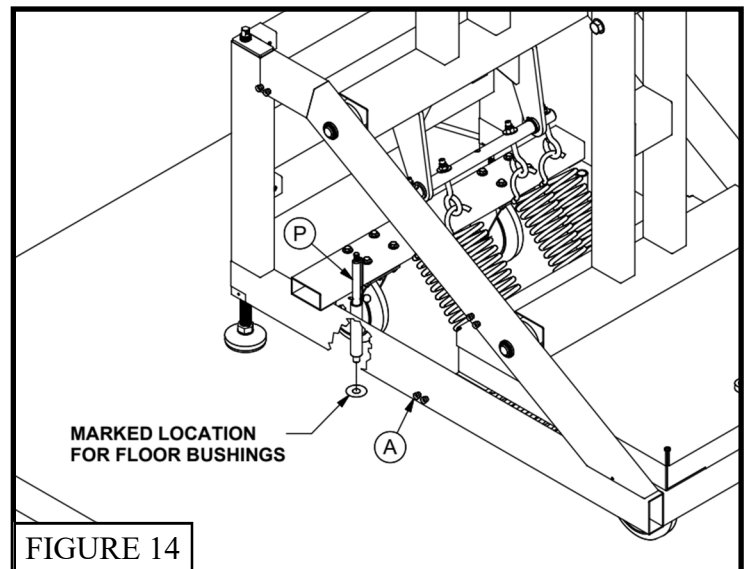

FIGURE 14
22. Move the *Portable Base* (A) to the desired location for use and lower the *Locator Pins* (P) to mark the appropriate placement for the *Floor Bushings* (R). See Figure 14.